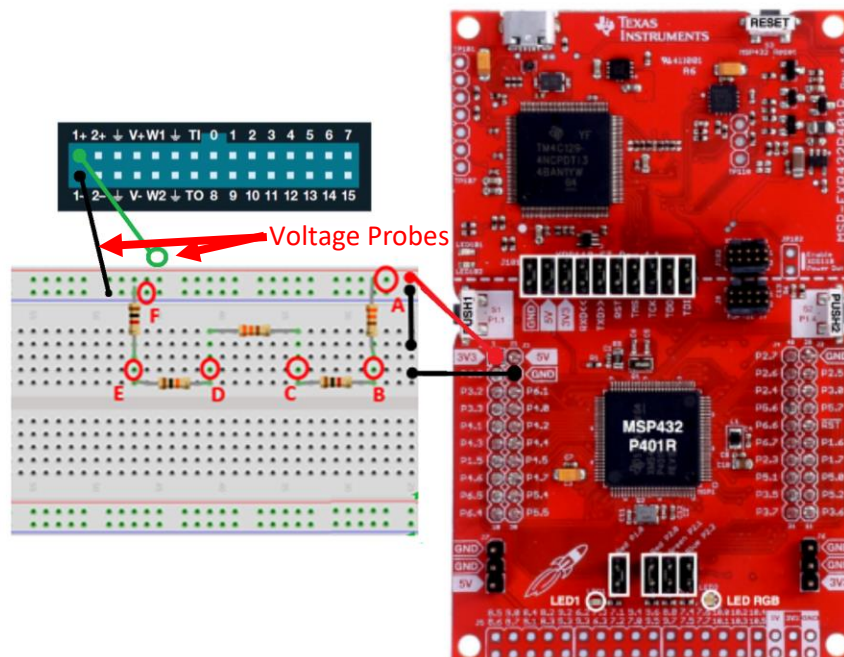

Fig. 10. Diagram of circuit to test voltmeter. The green wire from the ADALM2000 1+ pin hanging is the voltage probe.
6. Modify your circuit such that the trim-pot and the jumper wire was connected to the analogRead() pin are no longer included. From the ADALM2000, connect the 1- pin to ground while the 1+ pin will be your voltage probe that you will place at different locations of the circuit to measure the voltage. This is shown more explicitly in Figure 10.